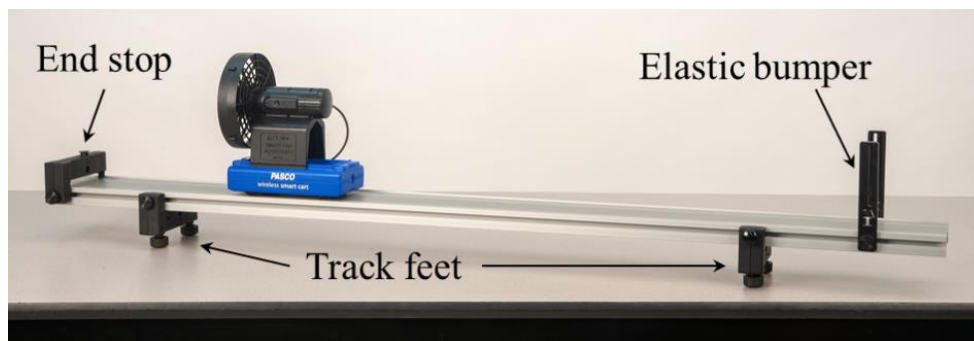

Figure 1: Experimental Setup
- As illustrated in Figure 1, install the two Track Feet on the underside of the Dynamics Track. Install the fixed End Stop at one end of the track (see Figure 1), and an Elastic Bumper (see Figures 1 & 2) at the other end.